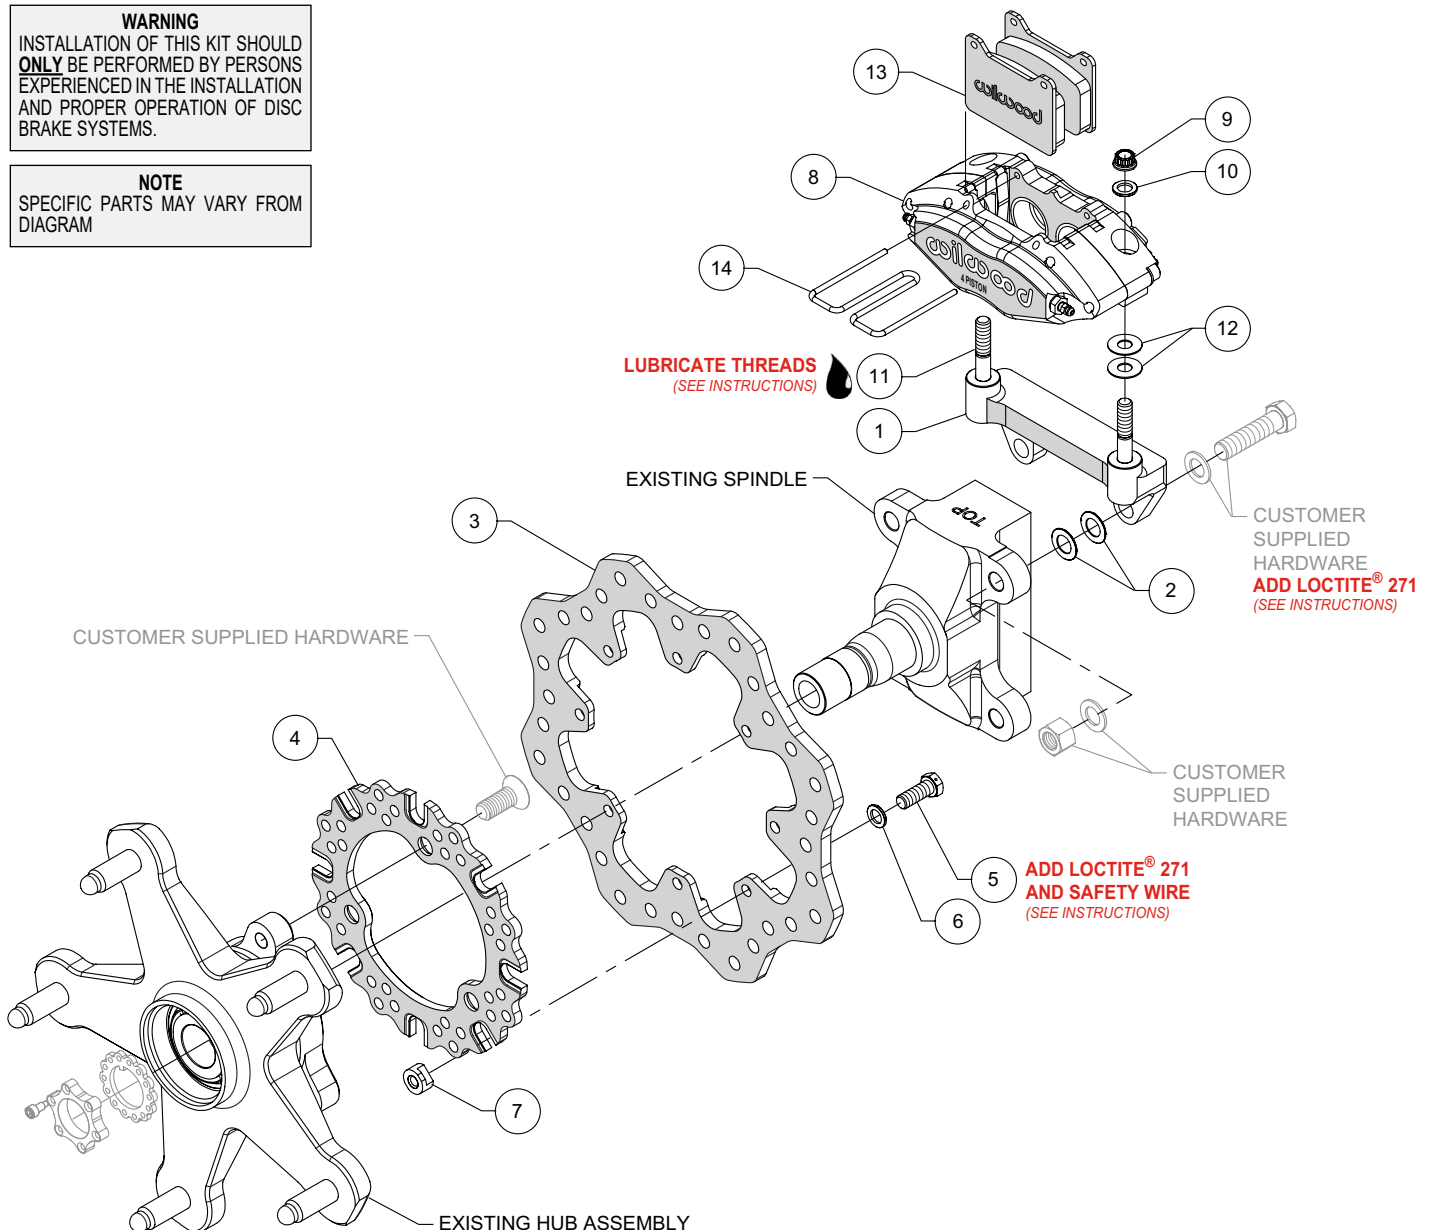

Figure 1. Typical Installation Configuration
NOTE: Numbers in parenthesis refer to the parts list and Figure 1 on the preceding pages.
- The caliper mount bracket (1) should initially be installed with clean, dry threads on the mounting bolts. Orient the bracket as shown in Figure 1, and install using customer supplied hardware. Initially place two .032" thick shims (2) on each bolt between the bracket and upright, Figure 1. Temporarily tighten the mounting bolts. **NOTE:** The bracket must fit squarely against the mount bosses on the upright. Inspect for interference from casting irregularities, machining ridges, burrs, etc. Later, after the caliper alignment has been checked, the mount bolts will be secured using red *Loctite*® 271.
- Orient the rotor (3) and rotor adapter (4), as shown in Figure 1, and attach using bolts (5), washers (6), and t-nuts (7), Figure 1. Using an alternating sequence, apply red *Loctite*® 271 to the bolt threads and torque to 220 **in-lbs**. Please refer to Wilwood's data sheet DS-669 (available at www.wilwood.com/Pdf/DataSheets/ds669.pdf) for complete t-nut bolt kit installation instructions. **NOTE:** Rotor adapter may be fix mounted to rotor (instead of floating mount) using customer supplied hardware.
- Install the rotor/adapter assembly to the existing hub using customer supplied hardware, Figure 1. Slide the hub assembly onto the existing spindle and secure using customer supplied hardware.
- Lubricate the caliper mounting studs (11) with lightweight oil. Initially place two .035" thick shims (12) on each stud between the caliper and the bracket, as shown in Figure 1. Mount the caliper (8) onto the bracket (1) using lock nuts (9) and washers (10), Figure 1. Temporarily tighten the lock nuts and view the rotor through the top opening of the caliper. The rotor should be centered in the caliper. If not, adjust by adding or subtracting shims (2) between the bracket and the upright. Always use the same amount of shims on each of the two mounting bolts. Once the caliper alignment is correct, remove the bracket mounting bolts one at a time, apply red *Loctite*® 271 to the threads, and torque to specification.
- Remove the pad clip retainer (14) from the caliper (8). Insert the disc brake pads (13) into the caliper, with the friction material facing the rotor (3), as shown in Figure 1. Check that the top of the brake pad is flush with the outside diameter of the rotor. If not, adjust by adding or subtracting shims (12) between the caliper and the bracket. After the caliper pad height is set, torque caliper lock nuts (9) to 30 ft-lb. Secure the pads in place with the pad clip retainer.